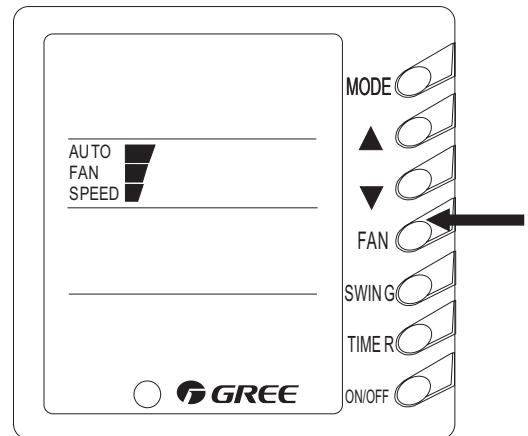

Fig. 3
2) Fan control (Fig. 3) (The relevant contents are shown in the figure.)